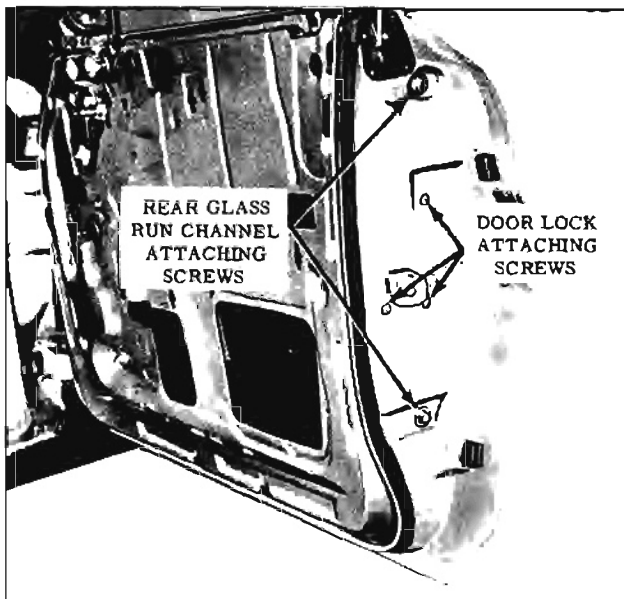

Fig. 16-39 Door Lock and Run Channel
5. Remove door lock attaching screws from lock pillar facing of door and remove lock assembly from door. (Fig. 16-39)